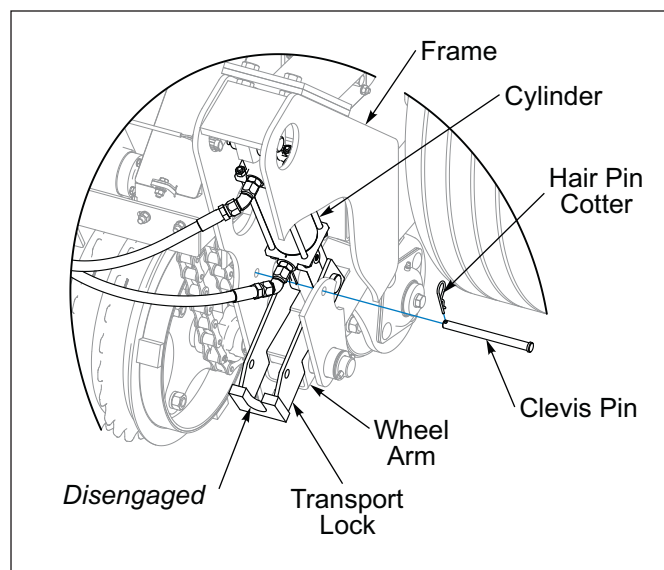

Figure 3-7: Transport Lock Disengaged
5. Disengage each Transport Lock so that the Transport Lock rests on the Wheel Arm. Insert the Clevis Pin in front of the Transport Lock. **See Figure 3-7.**
1. Raise the Seeder fully to extend the Hydraulic Lift Cylinders and rotate the Transport Locks to the stored position. Secure with the Clevis Pins and Hairpin Cotter. **See Figure 3-7.**
3. If Transport Locks are engaged, raise the Seeder and disengage the Transport Locks. **See Figure 3-7.**